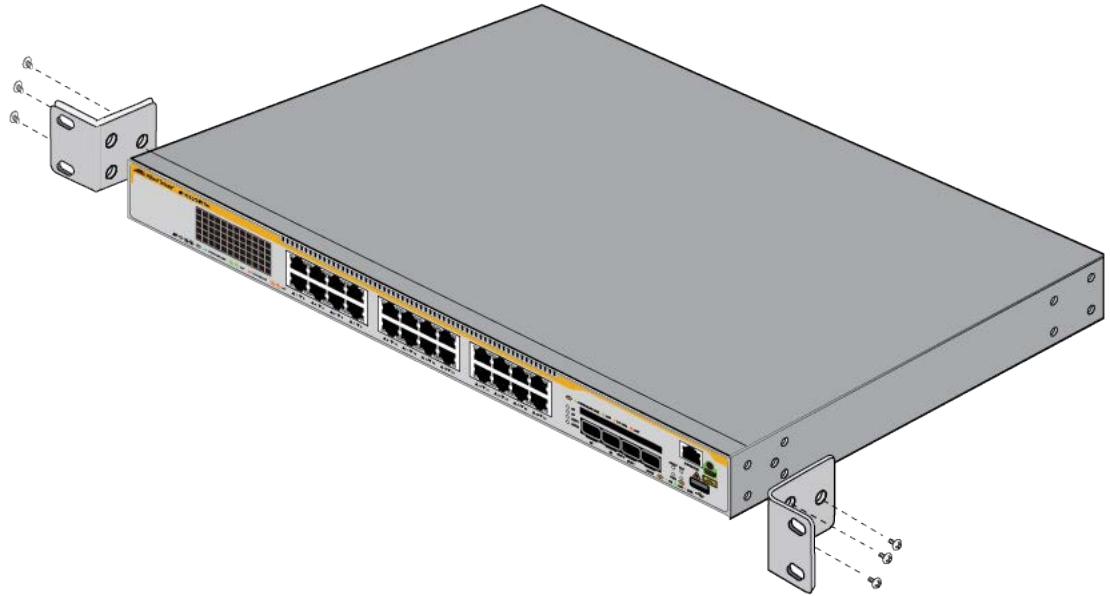

Figure 60. Attaching the Rack Mount Brackets
4. Attach the rack mount brackets to the sides of the switch with the six M4x8 screws as shown in Figure 60.
5. Tighten the six screws to attach the rack mount brackets to the switch. See Figure 60.